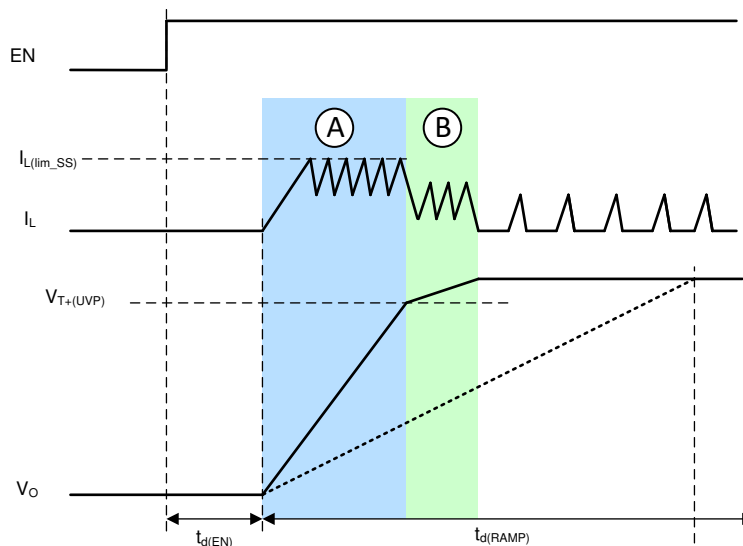

Figure 8-1. Typical Soft-Start Behavior
The TPS631012 and TPS631013 have two start-up mechanisms that are controlled by the FAST_RAMP_EN bit in Register CONTROL2. Figure 8-1 shows a typical start-up case (low output load, typical output capacitance).
- When FAST_RAMP_EN = 1, the fast ramp mode is enabled. The output ramp behavior is shown as the solid line V_O in Figure 8-1
- When FAST_RAMP_EN = 0, the fast ramp mode is disabled. The output ramp behavior is shown as the dash line V_O in Figure 8-1
When fast ramp mode is enabled, the devices control the inductor peak current to limit the inrush current and ensure the fastest possible soft start if the capacitance is chosen lower than that for which the ramp time $t_{d(RAMP)}$ was selected. The output voltage then rises faster than the reference voltage ramp (see phase A in Figure 8-1). To avoid an output overshoot, the current clamp is deactivated when the output is close to the target voltage and follows the reference voltage ramp slew value given by the voltage ramp, which is finishing the start up (see phase B in Figure 8-1). Transition from the current clamp operation is detected using the $V_{T+(UVP)}$ threshold, which is typically 90% of the target output voltage. After phase B, the output voltage is well regulated to the nominal target voltage. The current waveform depends on the output load and operation mode. The current limit during start-up has two options and is controlled by the CL_RAMP_MIN bit in Register CONTROL2.
- When CL_RAMP_MIN = 0, the typical current limit during start-up (phase A in Figure 8-1) is 500mA
- When CL_RAMP_MIN = 1, the typical current limit during start-up (phase A in Figure 8-1) is 1000mA